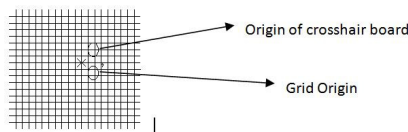

Figure 2-2
7. Turn the magnification of the continuous objective to the highest range until the dot O of the crosshair board and the dot O' of the gridded eyepiece are superimposed as shown in (Fig.2-2).